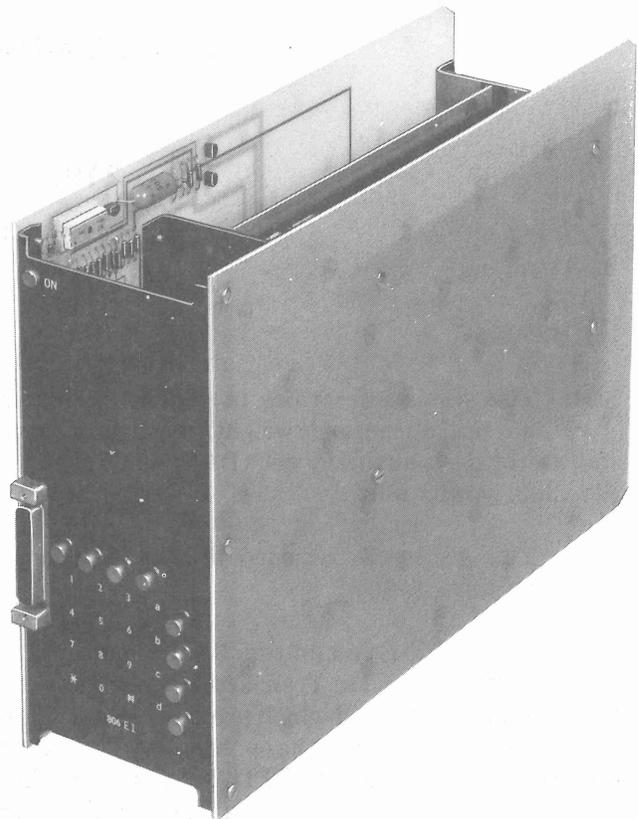

Fig. 2—Data Auxiliary Set 806E-Type
**2.08** DAS 806E-type (Fig. 2) is 8 inches high, 12 inches deep, 3 inches wide, and weighs 2-1/2 pounds.